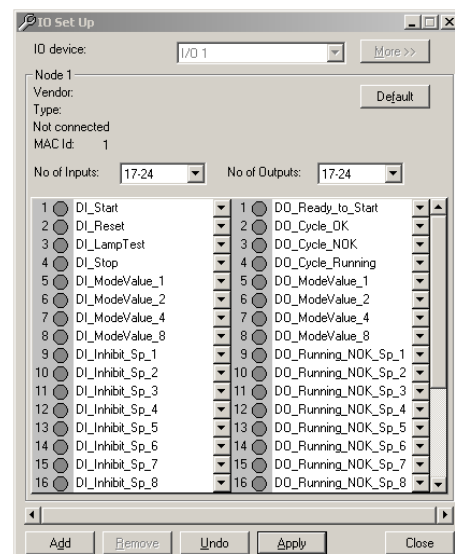

Figure 14: IO Set Up
4. Click the **Hardware** tab and then the Tightening Controller (TC) icon to configure.
8. In the **System Set Up** window; click the added **I/O** icon and then click **Advanced** to access **IO Set Up** dialog box. See Figure 14.